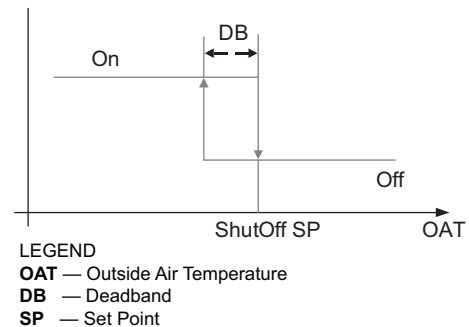

Fig. 60 — Hysteresis Settings
Hysteresis setting (DB) defaults to 2°F (–17°C). See Fig. 60.